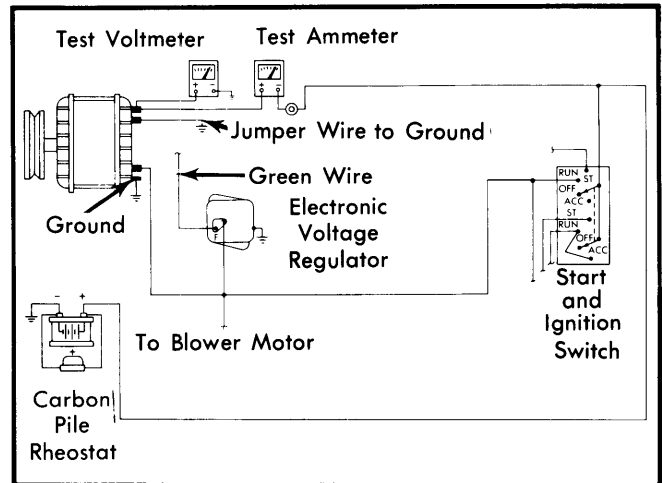

Fig. 2 Diagram Showing Meter Connections for Alternator Current Output Test
1) With test connections made as for "Charging Circuit Resistance", move negative lead of voltmeter to a good ground, then move the positive lead of voltmeter to "BAT" terminal of alternator. See Fig. 2. Connect positive ammeter lead to alternator "BAT" terminal and negative lead to disconnect "BAT" lead. Start engine and operate at idle speed.